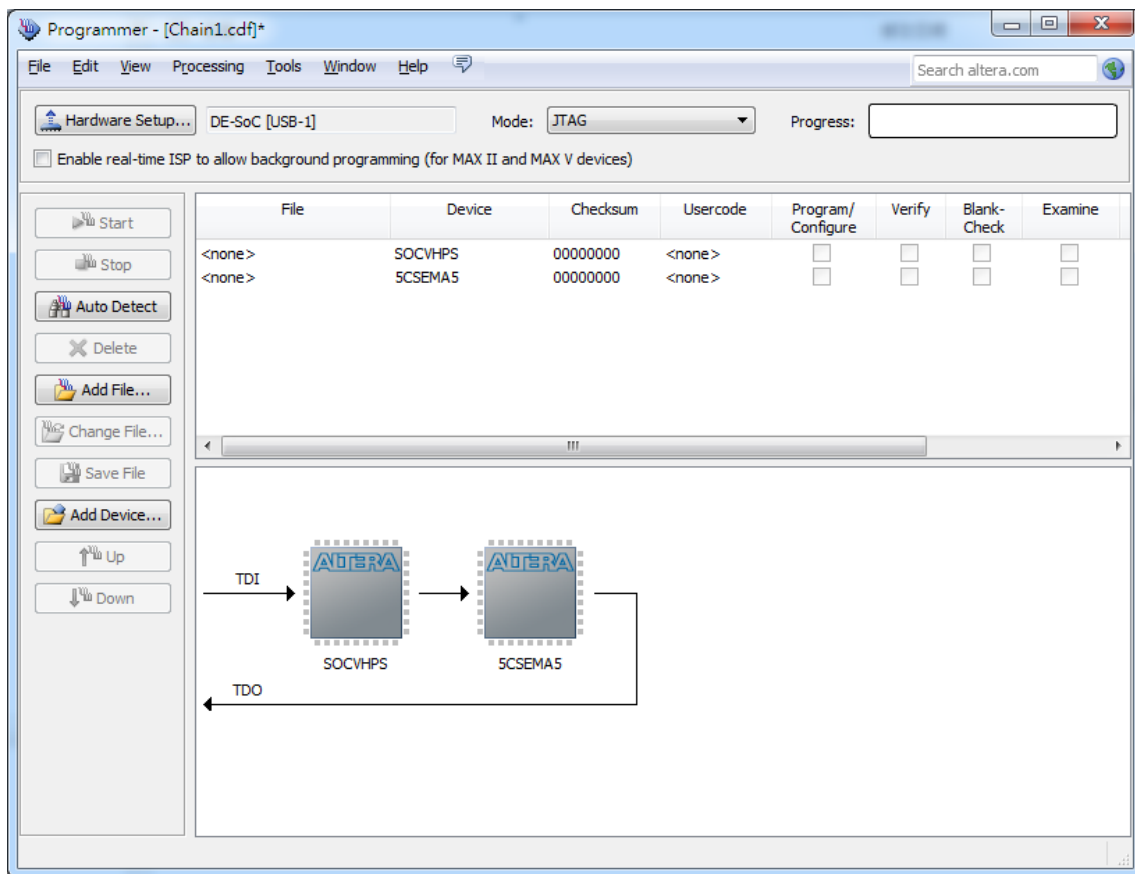

Figure 3-5 FPGA and HPS detected in Quartus programmer
3. Both FPGA and HPS are detected, as shown in **Figure 3-5**.